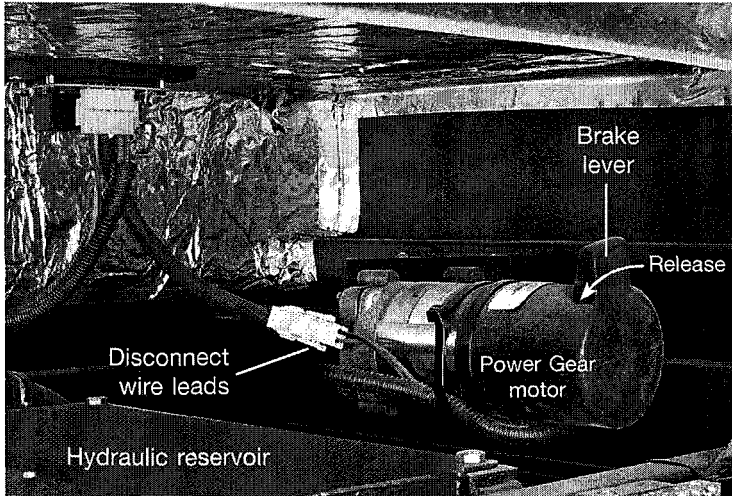

Figure 5.5
- 1 Access the Power Gear slide-out motor on the passenger side of the engine bay (**Figure 5.5**, page 5.9). In order to move the room manually, the brake lever on the end of the motor must be moved to the brake-release position